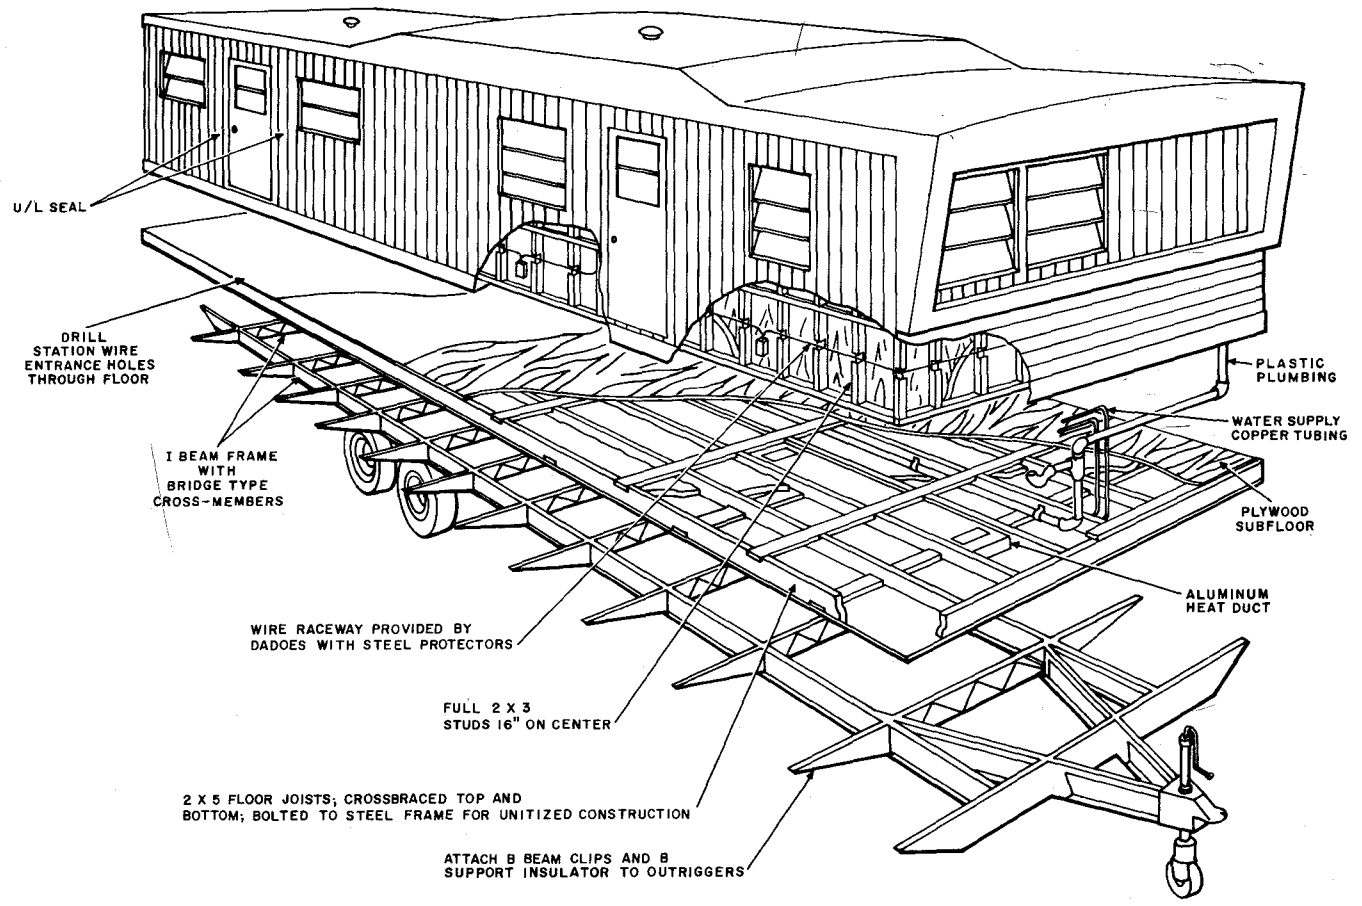

Fig. 9—Typical Mobile Home Construction
7.01 Construction of a typical mobile home is shown in Fig. 9. It is similar to a frame building construction except it is mounted on a